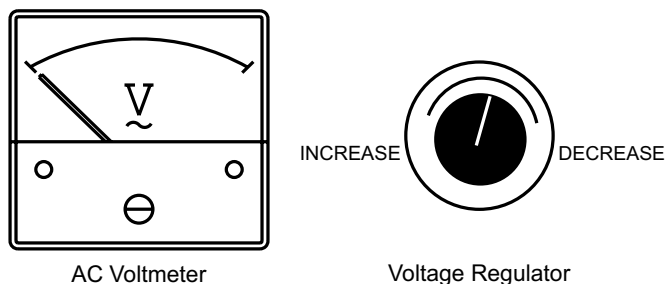

Figure 10. Voltage Regulator Knob and AC Voltmeter
3. Adjust the Voltage Regulator Knob to the corresponding voltage noted in Table 3. Check the AC voltmeter for the correct reading. See Figure 10.